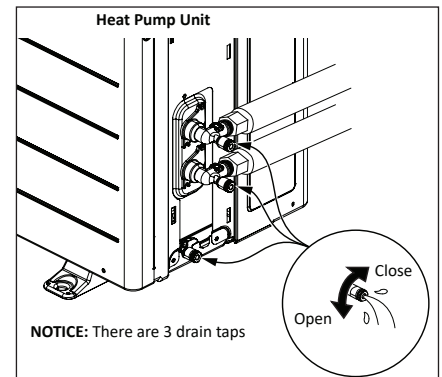

Figure 20 - Purge all air from the unit.
- 1** To purge the air from the unit locate and loosen, but do not remove the drain plugs with a small pipe wrench or sufficient tool. Once the water flows consistently, allow the water to flow for at least 2 minutes. To avoid losing the drain plugs, it is recommended to not remove them. **NOTICE:** Amount of time for the air to fully purge could vary due to inlet line length and height differences. See Figure 20.